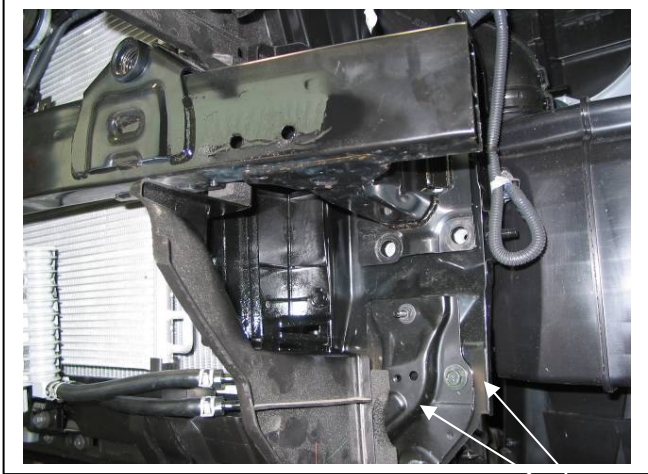

Figure 5 – Three 13mm bolts to be removed. Petrol model shown.
10. **ON PASSENGERS SIDE:** Remove three 13mm bolts from radiator support. (Two from bumper support and one inner bolt from lower radiator support). **See figure 5.** For turbo Diesel vehicles, remove mount for turbo intercooler, two 12mm bolts from lower section of mount, one 13mm intercooler mount bolt and one 10mm bolt from beside intercooler mount bolt into radiator support.